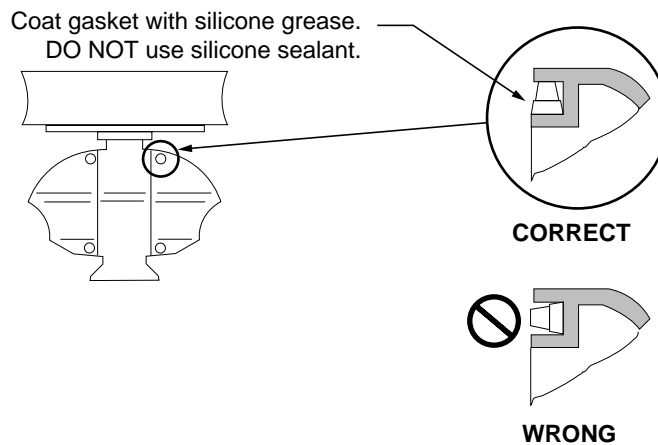

Figure 2-5 Correct seating of waterproofing gasket
- 13) Confirm that all screws are tightened and all wiring is properly made. Coat waterproofing gasket, bolts and tapping holes of scanner unit with silicone grease. Check that the waterproofing gasket is seated as shown in Figure 2-5. Close the scanner unit cover.